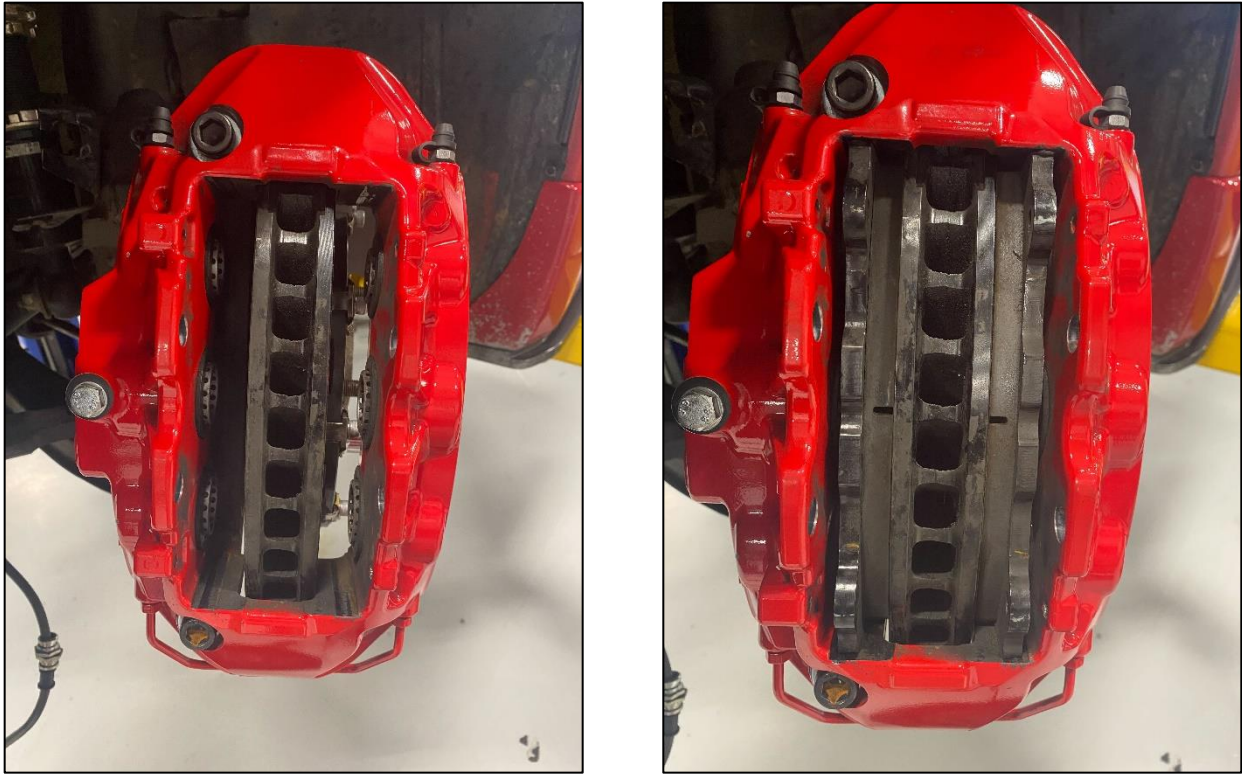

Figure 12
18. Locate the Brake Pads and the Caliper Hardware. Add a small amount of Brake Grease to the back side of the Brake Pads. Insert (1) one Brake Pad on each side of the Rotor with the pad facing the rotor. *Figure 12.*